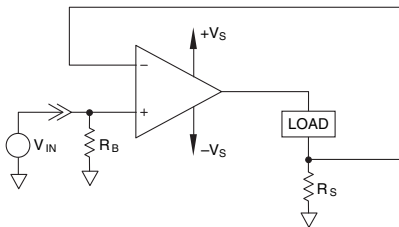
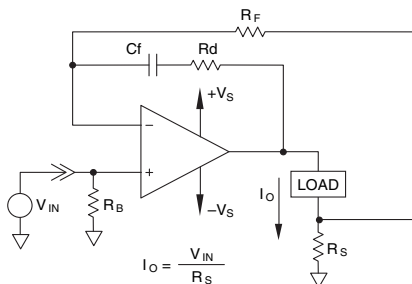
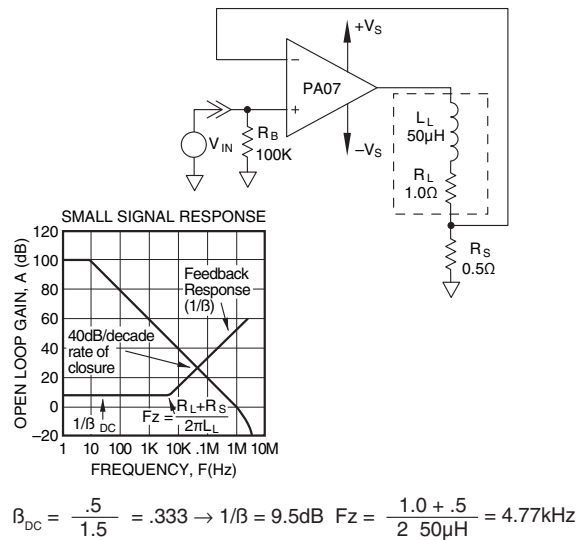
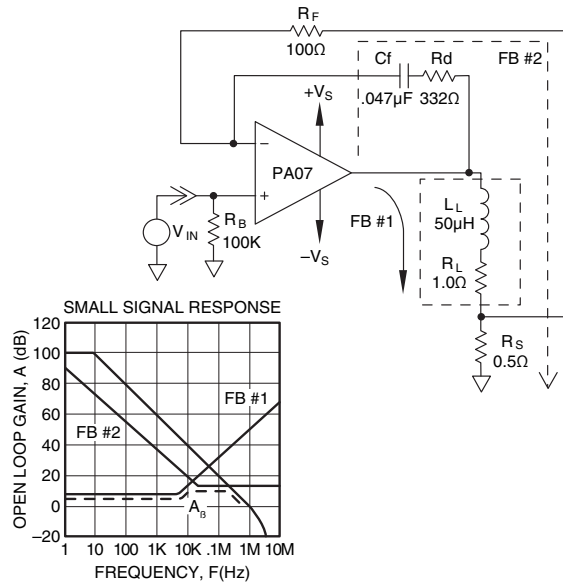

FIGURE 1A. BASIC VCCS FOR FLOATING LOAD
FIGURE 1B. VCCS FOR FLOATING LOAD WITH STABILITY COMPENSATION
FIGURE 5. PLOTTING FEEDBACK RESPONSES
FIGURE 6. COMPENSATING THE AMPLIFIER corner.
Figure 1A illustrates the basic circuit of a VCCS for a floating load. The load is actually in the feedback path.  $R_S$  is a current sense resistor that develops a voltage proportional to load current.
Note the inclusion of resistor  $R_B$  in Figure 1A and subsequent figures where non-inverting VCCS's are described. This resistor is present to prevent the non-inverting input from floating when the input voltage source is disconnected or goes to high impedance during the power on cycle.  $R_B$  provides a path for input bias current of the amplifier and commands the amplifier output current to zero in cases where  $V_{IN}$  is disconnected or goes to a high impedance. Figure 1B shows an implementation of a VCCS for a floating load. At low frequencies the added components  $C_f$ ,  $R_d$ , and  $R_F$  have no effect and are included only to insure stability. Considerations for these components are discussed in the section on "Stabilizing the Floating Load VCCS" covered later in this application note.
For an example, consider the amplifier of Figure 1A. Assume a PA07 amplifier with a 0.5 ohm current sense resistor will be used to drive a 50 μH coil with 1 ohm of series resistance. In Figure 5 we have superimposed on the Aol graph of the PA07 the response of the load and sense resistor.
To provide this response, the alternate feedback components have been selected to provide the compensating response illustrated in Figure 6. AB in Figure 6 is the dominant feedback path the amplifier will see in its closed loop configuration. RF merely acts as a ground leg return impedance for the alternate feedback loop, and should be a low value between 100 and 1000 ohms. Rd is then selected to provide the desired high frequency gain, and Cf is selected for the alternate feedback
In the example in Figure 5, the curve referred to as feedback response is actually representative of the closed loop noise gain response of the amplifier due to the feedback network consisting of yoke and sense resistor. In Figure 6, an additional feedback response for  $C_f$ ,  $R_d$ , and  $R_F$  is plotted independently of all other responses. There are several important points to be noted in the use of these graphs:
1. In the case of multiple feedback networks such as in Figure 6, the response with the lowest noise gain at any given frequency will be the dominant feedback path. In Figure 6 this dominant feedback path is labelled  $A_{\beta}$ .
2. Whenever the noise gain and open loop gain intersect with a combined slope, or rate of closure, exceeding 20 dB/decade, poor stability will result. 40 dB/decade will definitely oscillate since this represents 180 degrees of phase shift. An example of this is shown in Figure 5.